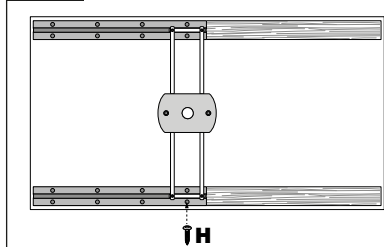

Fig. 5a
- Butt the second set of back and front rails up against to the existing rails. – (Fig. 5a)